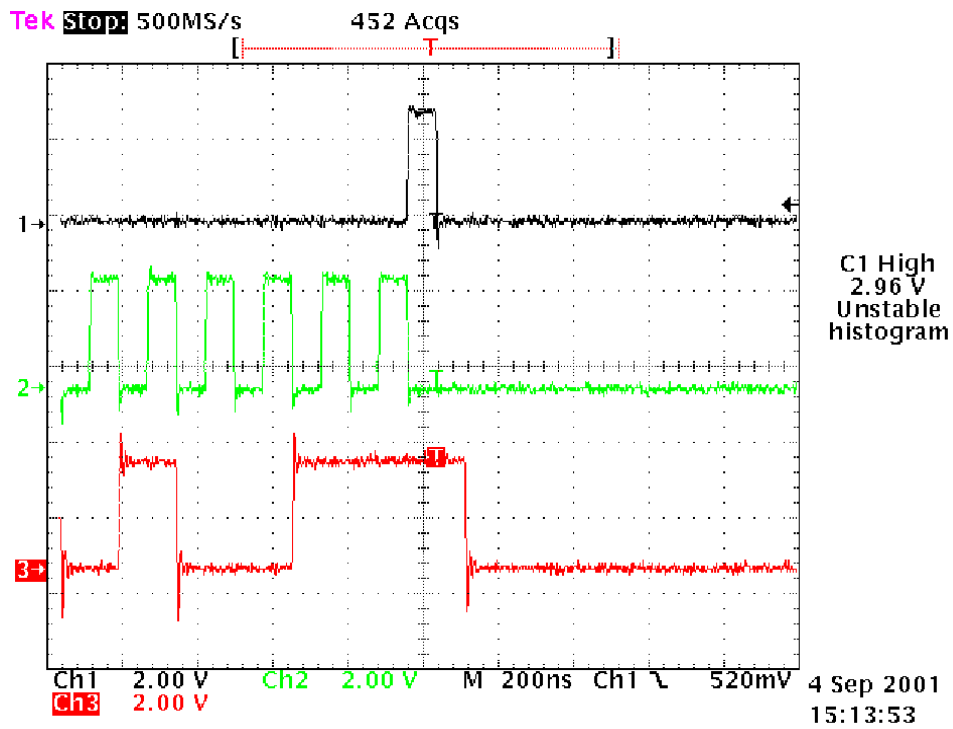

Figure 3-18. LE, Clock, Data
5. CLK, DATA, SEN (see Fig. 3-18)